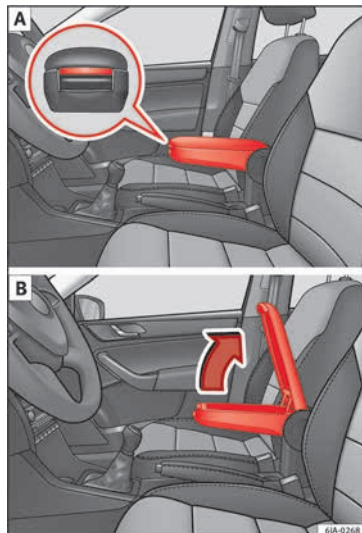

Fig. 144 Armrest/Opening and closing the storage compartment.
- Press the button located on the front of the armrest » Fig. 144 - [A].
- Lift the storage compartment lid » Fig. 144 - [B].